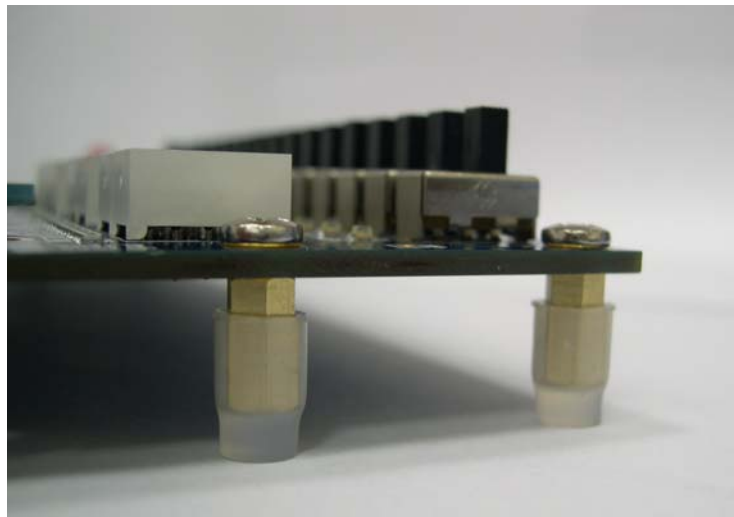

Figure 1.2. The feet for the DE2-70 board.
- Assemble a rubber (silicon) cover, as shown in Figure 1.2, for each of the six copper stands on the DE2-70 board